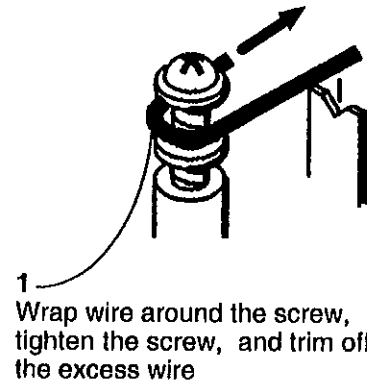

Figure 3. Installing and Tensioning the Transfer Corotron Wire
2. (Figure 3) Thread the wire over the notches on each end block, and loop the open end a 3/4 turn around the screw in the rear block as shown. Do not tighten the screw until the tension is set